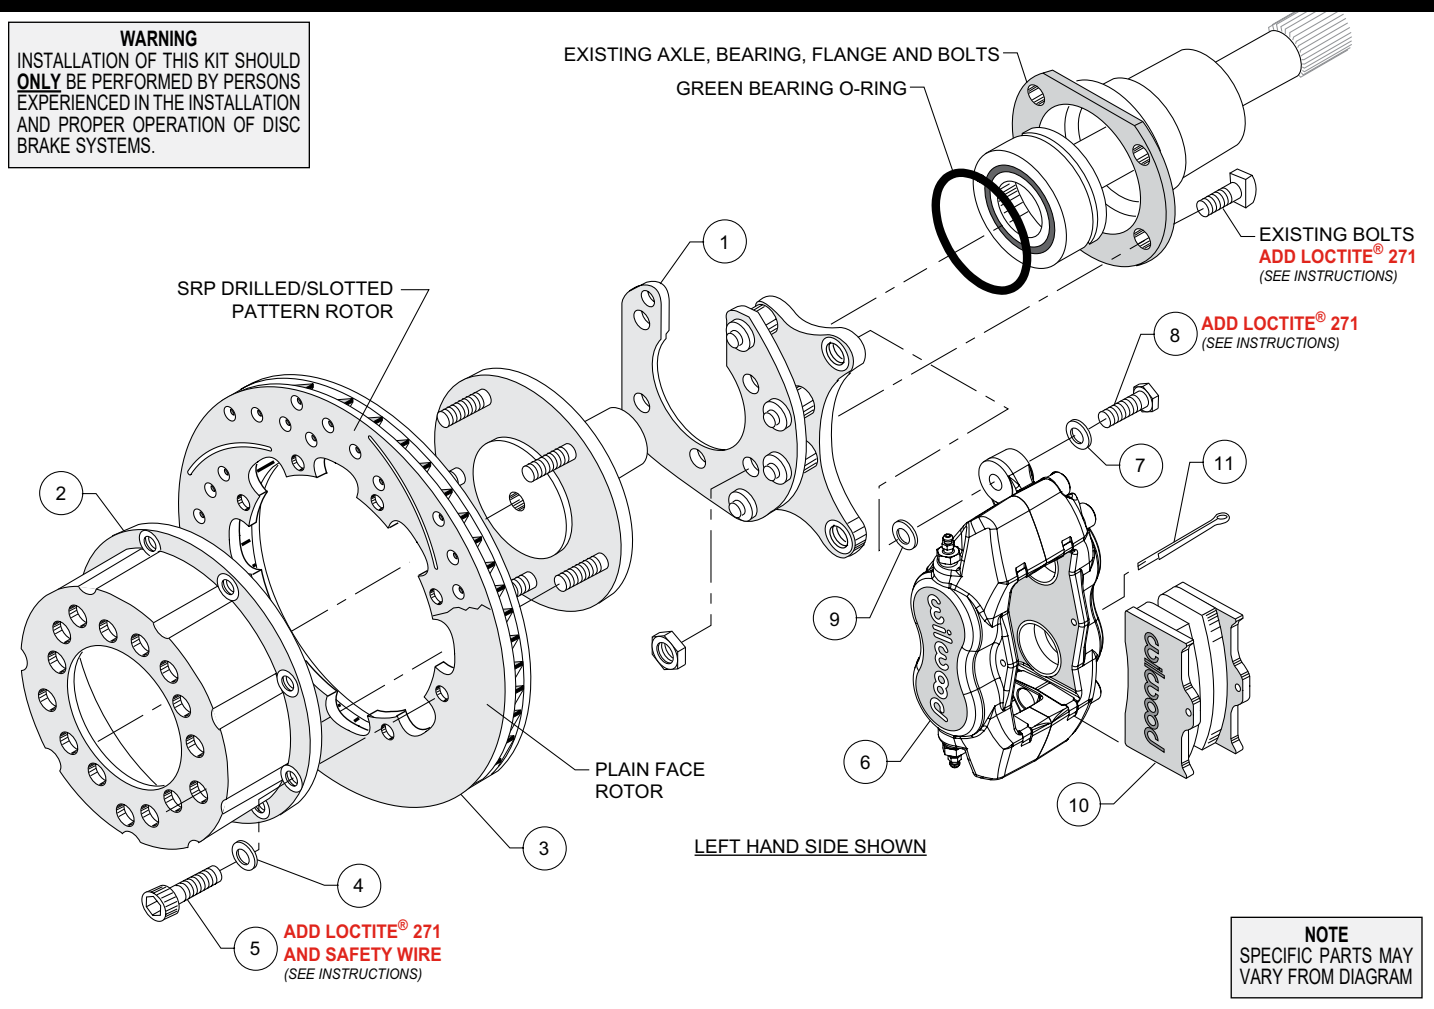
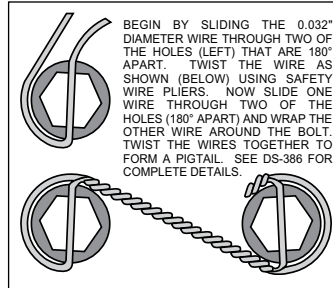
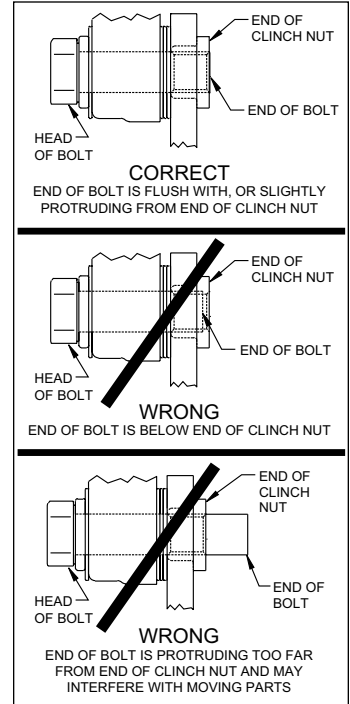

Figure 4. Typical Installation Configuration
Figure 7. Safety Wire Diagram
Figure 8. Clinch Nut Engagement Diagram
NOTE: Numbers in parenthesis refer to the parts list and Figure 4 on the preceding pages.
CAUTION: All mounting bolts must fully engage clinch nuts. Be sure to check that all bolts are either flush or protruding through flanged side of clinch nut after shimming, Figure 8.
- Orient the bracket assembly (1) as shown in Figure 4 and install it onto the axle to retain the bearing. Ensure that the bracket assembly plate fits flush against the axle housing flange. Secure
bracket assembly to the axle housing flange using the Original Equipment Manufacturer (OEM) bolts and nuts, Figure 4. Stock OEM hex nuts that retain the bracket (1) should be on the wheel side of the bracket. Apply red *Loctite*® 271 to the OEM bolt threads and torque to OEM specifications. **NOTE:** Make sure the heads of the caliper mounting bracket insert nuts (1) are FACING OUTWARD TOWARDS THE WHEEL, see Figure 4.
- Orient the rotor (3) and the hat (2) as shown in Figure 4. Attach rotor to hat using bolts (5) and washers (4). Apply red *Loctite*® 271 to the bolt threads and torque to 180 **in-lbs** using a criss-cross pattern. Safety wire bolts (5) using standard 0.032 inch diameter stainless steel safety wire as shown in Figure 7. Please refer to Wilwood's data sheet DS-386 (available at www.wilwood.com/Pdf/DataSheets/ds386.pdf) for complete safety wire installation instructions.
- Align the correct hole pattern in the hat (2) with the stud pattern on the axle flange and slide into place, Figure 4. **NOTE:** The rotor/hat must fit flush against the axle flange or excessive rotor run out may result. Install three lug nuts (finger tight) to keep the rotor/hat assembly in place while continuing with the installation. **NOTE:** Some OEM and after market axles come with stud sizes larger than 0.50" diameter. Verify stud size and have a qualified machine shop drill the bolt circle of the hat/rotor to the correct stud size, if necessary.
- NOTE:** Please reference the caution statement at the beginning of the assembly instructions. Mount the caliper (6) onto the caliper mounting bracket (1) using bolts (8) and washers (7), as shown in Figure 4. Initially place one .032" thick shim (9) on each bolt between the caliper and the bracket, Photo 1. Temporarily tighten the mounting bolts and view the rotor (3) through the top opening of the caliper. The rotor should be centered in the caliper, Photo 2. If not, adjust by adding or subtracting shims between the bracket and the caliper. Always use the same amount of shims on each of the two mounting bolts. **NOTE:** The end of each bolt must be flush with or slightly protruding from the head of the clinch nut, as shown in Figure 8. If necessary place spare shims between washer (7) and caliper mounting ear to achieve the proper clinch nut engagement. Once the caliper alignment and clinch nut engagement are correct, remove the bolts one at a time, apply red *Loctite*® 271 to bolt threads, and torque to 40 ft-lb.
- Install the disc brake pads (10) into the caliper, with the friction material facing the rotor (3), and secure in place using cotter pin (11), Photo 3.